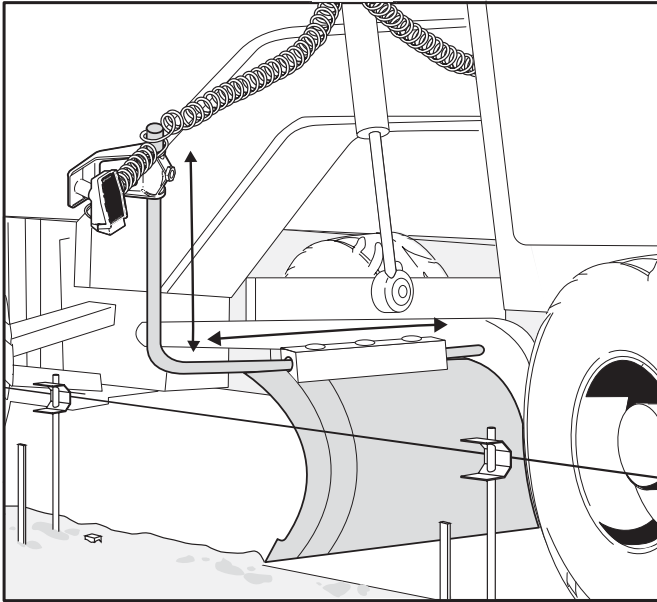

Figure 9-3. Position L-Bar and Tracker Over Grade Reference
5. Position the L-Bar horizontally so the Tracker rests over the reference for the jobsite (Figure 9-3).
For example, when tracking a stringline offset from the edge of the road, set the end of the moldboard at the edge of the road and slide the L-Bar so the Tracker is over the stringline (Figure 9-3). When tracking a curb, keep the L-Bar in close to keep the Tracker over the lip of the curb.
6. Raise or lower the Tracker bracket to position it at a proper height above the grade reference (Figure 9-3).